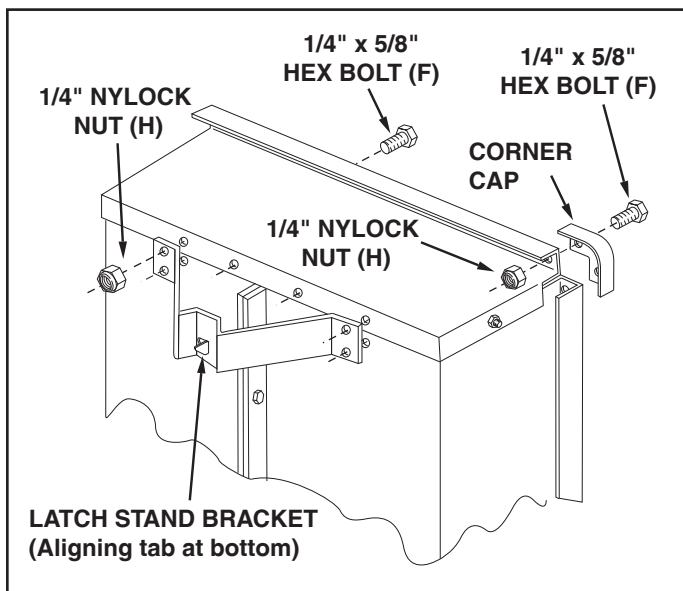

FIGURE 5
11. Assemble the latch stand bracket to the cart so that the aligning tab is at the bottom of the bracket. Use four 1/4" x 5/8" hex bolts (F) and 1/4" nylock nuts (H). **Tighten**. See figure 5.
12. Assemble a corner cap to each front corner using one 1/4" x 5/8" hex bolt (F) and 1/4" nylock nut (H) per cap. **TIGHTEN**. See figure 5.